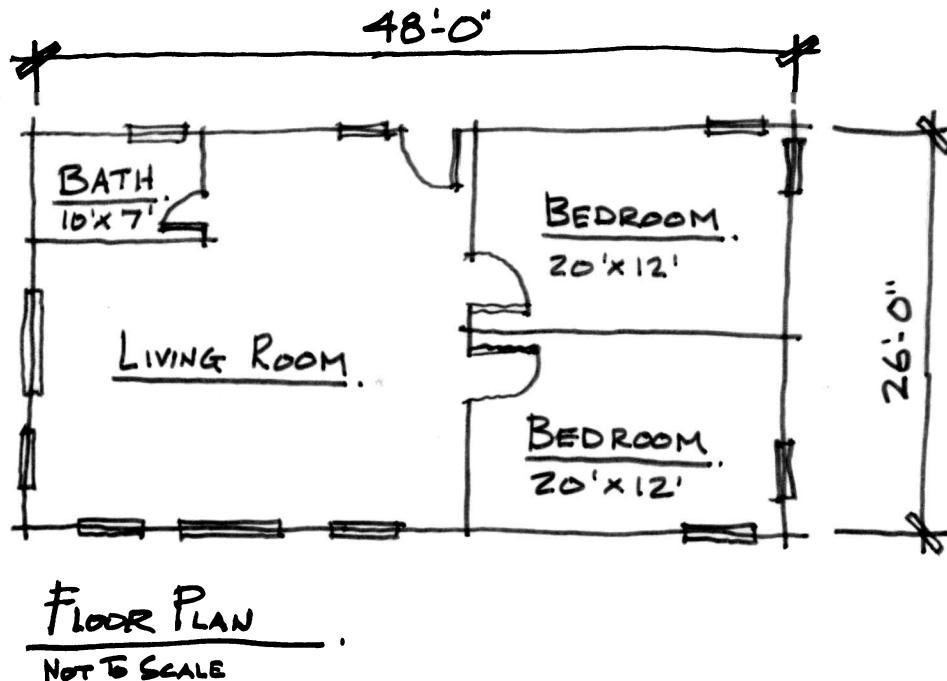

FIGURE 2-1.1 Lake Cabin Sketch
This sketch is just to give you an idea of what you will be creating in this chapter (Figure 2-1.1).
12. **One More Step:** Draw the two interior walls for the bathroom to complete the interior walls; dimensions are to center of walls (Figure 2-1.1).
7. Insert the doors into the bedrooms as shown in **Figure 2-1.1**. The exact position is not important in this exercise.
6. Place the other four windows in the living room area as shown in **Figure 2-1.1**. Again, in this exercise we are not concerned with the exact placement of the windows.
8. Place the remaining five windows: two in each bedroom and one in the bathroom, as shown in **Figure 2-1.1**.